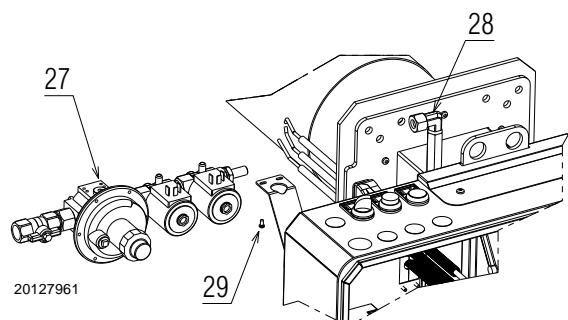

Fig. 19
- Insert the pilot train 27)(Fig. 19) on connector 28) and tighten the nut fully home.